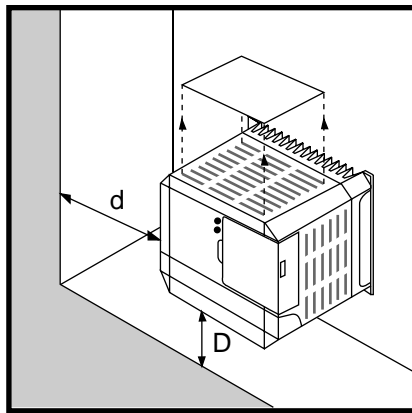

Figure 3 IP30 Installation
- ❑ Figure 3 shows the minimum clearances required around the drive controller for unobstructed airflow; $D \geq 4$ in (100 mm), $d \geq 2$ in (50 mm). These clearances should not be used as minimum enclosure size for proper thermal dissipation.